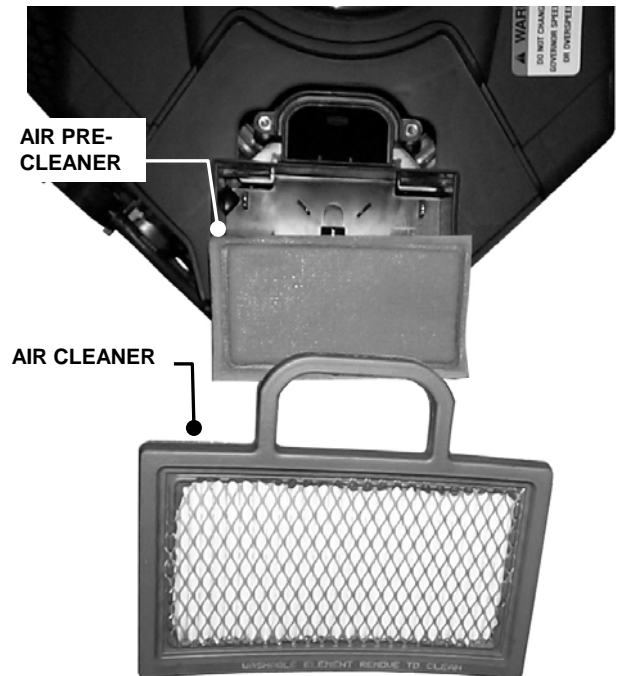

FIGURE 3.4
- b. Refer to engine owner's manual for cleaning and service instructions. Remove and clean engine air pre-cleaner. Remove and replace engine air cleaner. See Figure 3.4. Install pre-cleaner and air cleaner per engine owner's manual.